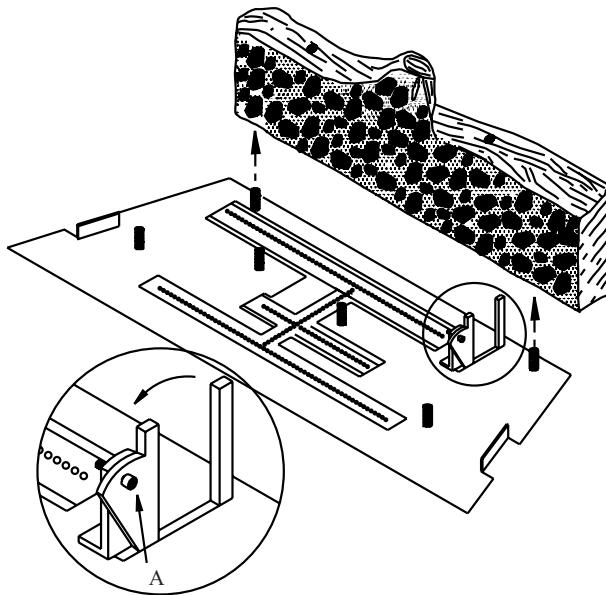

Figure 10
- 2) At the rear of the firebox is a log retainer (the circled area in **Figure 10**). This retainer can be rotated forward to increase the size of the flames in front of the rear log. Rotate the retainer by loosening screw A. For inserts burning propane the retainer may be rotated half the way forward. For inserts burning natural gas, the retainer may be rotated all the way forward. It may be necessary to try various settings to find the optimum one. Never rotate the retainer to such an extent as to cause sooting.
- 3) Align the holes in the bottom of the rear log (the longest log in the set) with the two pegs just to the rear of the rear burner tube and slide the log down onto the pegs. See **Figure 10**. The charred black surface of the log should face the front. (Continued on the following page).